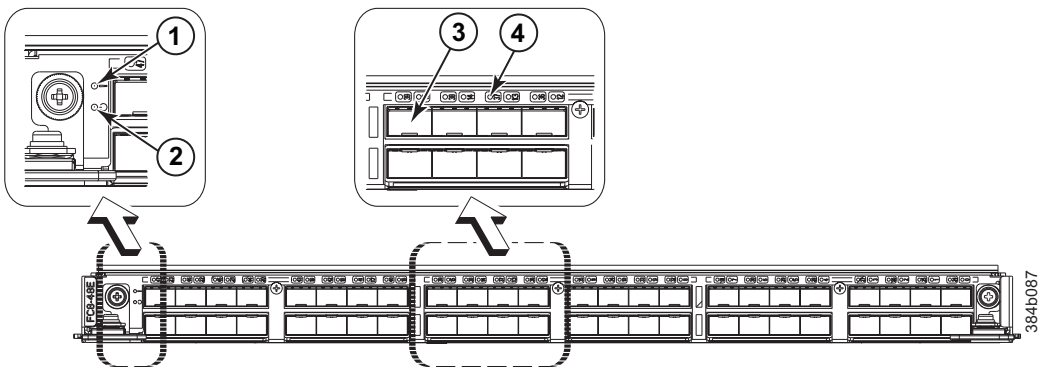

Figure 22. FC8-48E port blade
- Figure 22 on page 56 illustrates the FC8-48E port blade